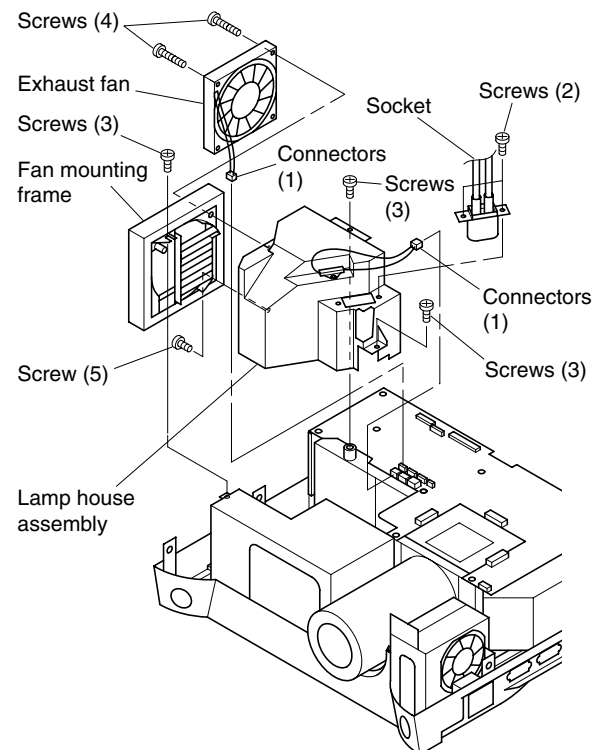

Fig. 3-1-5
2. Remove lamp house assembly. (Refer to Fig. 3-1-5.)
3. Remove 2 screws (1) and remove PC board holder bracket.
4. Remove 3 screws (2) and remove metal fitting.
5. Remove 4 screws (3) and remove optical box lifting upward.
6. Remove 2 screws (4) and remove air suction fan.